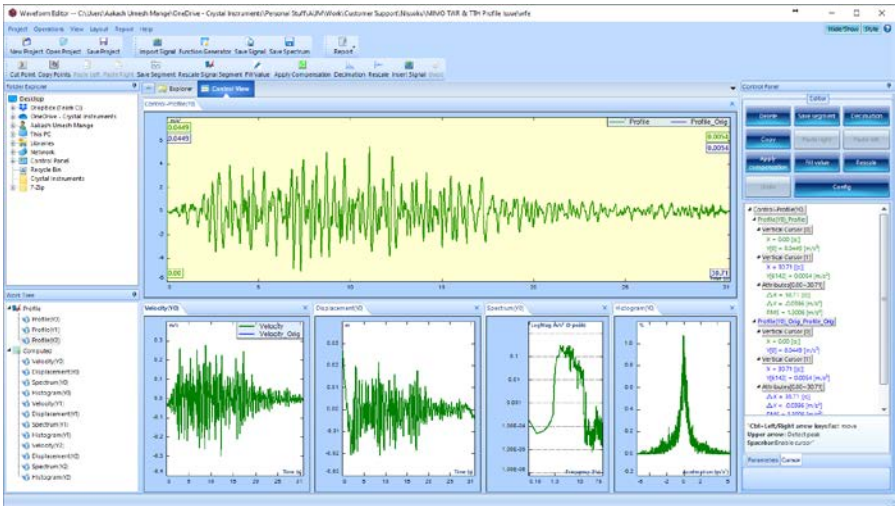

Figure 2.2 EDM Waveform Editor
2. The profile is imported into the Crystal Instrument's EDM Waveform Editor software to fine tune the sampling rate and frame size which helps in better representation and optimized control of this waveform. (Figure 2.2)